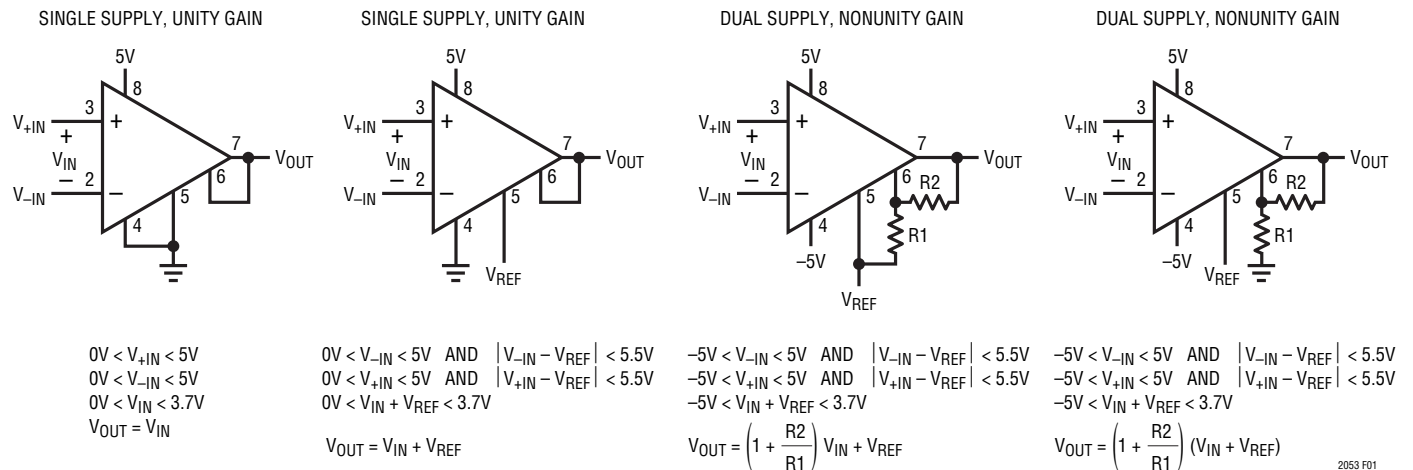

Figure 1
**RG** (Pin 6): Inverting Input of Internal Op Amp. See Figure 1.
**OUT** (Pin 7): Amplifier Output. See Figure 1.
|     |       | Replaced Figure 1   | 11          |